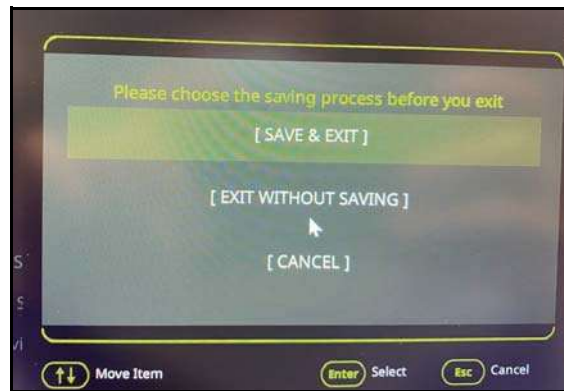

Figure 2-22. Save Configuration Changes and Exit
- Press **F10** and select "SAVE & EXIT" to save the settings and exit the BIOS Menu (Figure 2-22). The system will restart automatically.